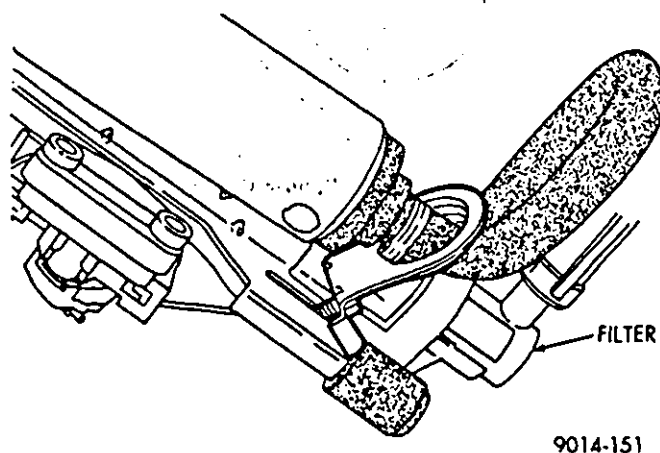

Fig. 23—In-Tank Fuel Filter Removal/Installation
- (1) Remove the fuel tank. Refer to Fuel Tank Removal.
- (2) Remove the fuel pump/sender unit from the fuel tank. Refer to Fuel Pump/Gauge Sending Unit Removal.
- (3) Remove fuel filter from the fuel pump/gauge sending unit by pulling the filter down (Fig. 23).